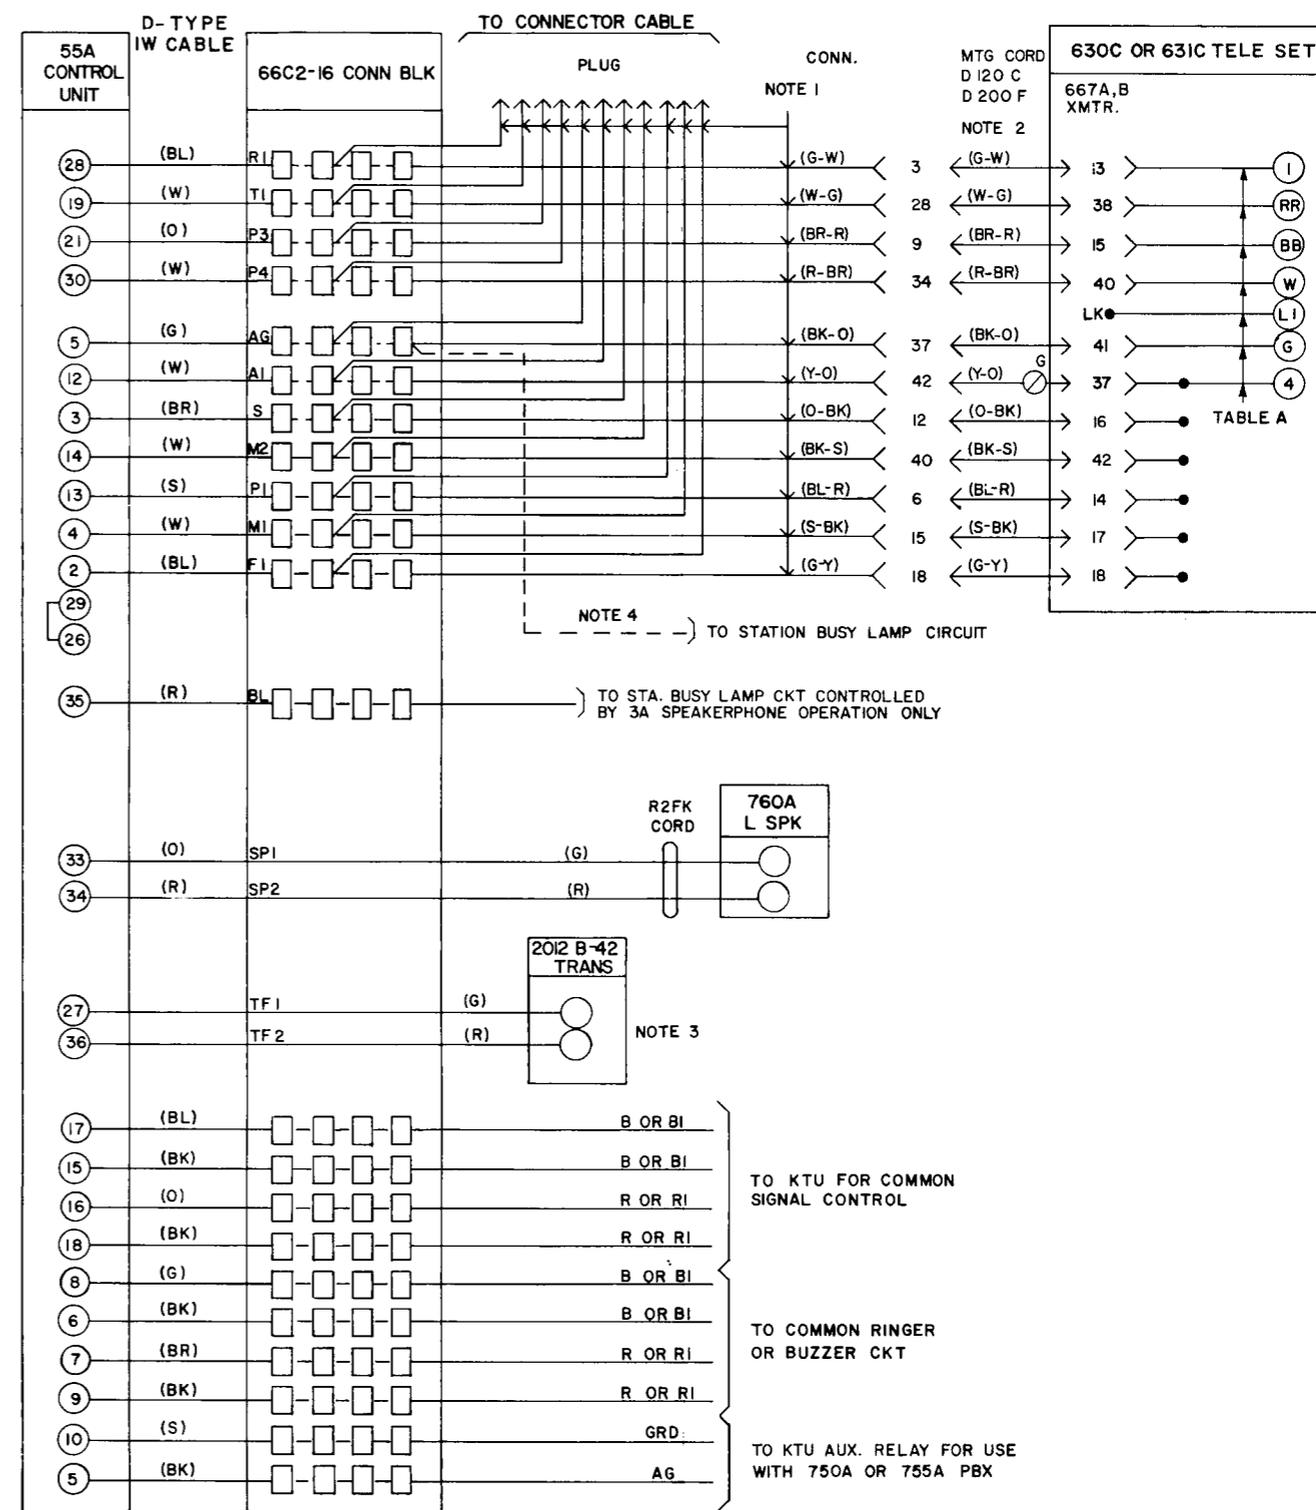

Fig. 3 — 630C or 631C Telephone Sets with 667-Type Transmitter Unit and Even-Count Color-Coded Cords
- Show connections for 630- and 631-type telephone sets equipped with even-count color-coded cords in Fig. 3.